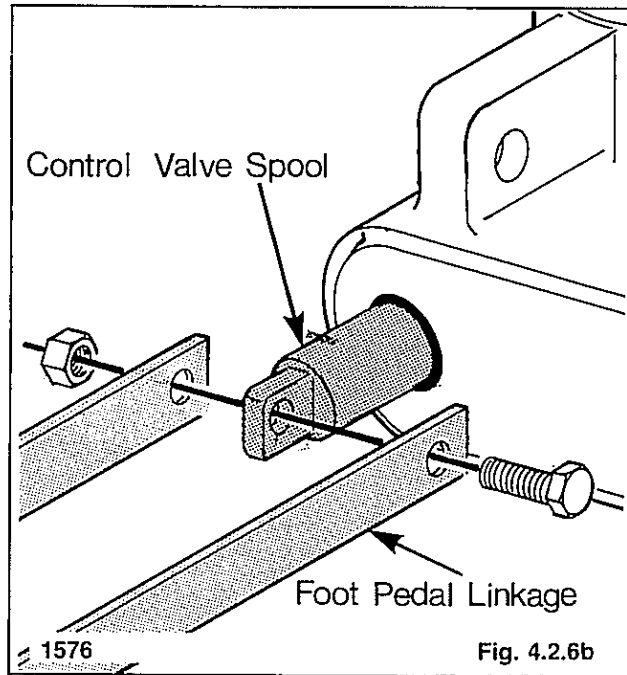

Fig. 4.2.6b
6. Disconnect the foot pedal linkages from the control valve spool (fig. 4.2.6b).